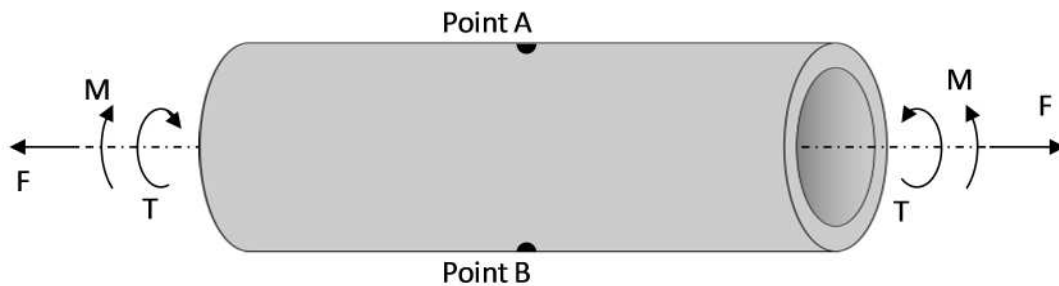

Figure Q1
1. An aero engine drive shaft of outer diameter 61.5mm with a wall thickness of 3mm is subjected to an axial force,  $F$ , torque,  $T$  and bending moment,  $M$  at various points during service as shown in Figure Q1.